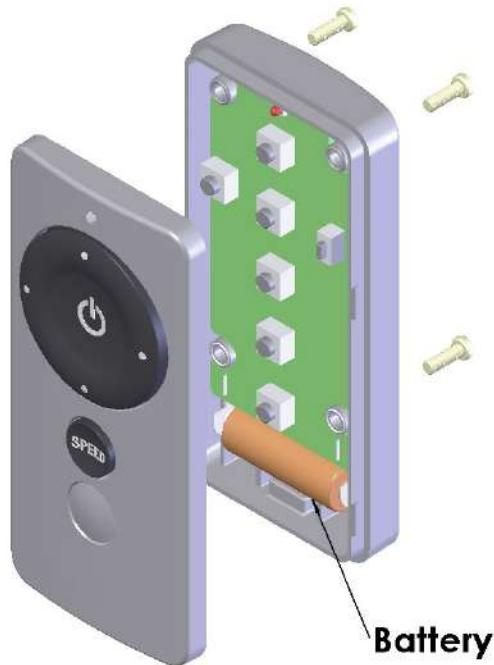

Fig. 11 Battery Location in Remote Controller
2. Loosen the four (4) screws from back cover of Remote Controller.
3. Carefully dissemble Remote Controller, see details in Fig.11.
- ⌚ Check if the wireless remote's battery is in good condition, see Fig.11.
- ⌚ Replace battery for Remote Controller. (See Fig. 11)